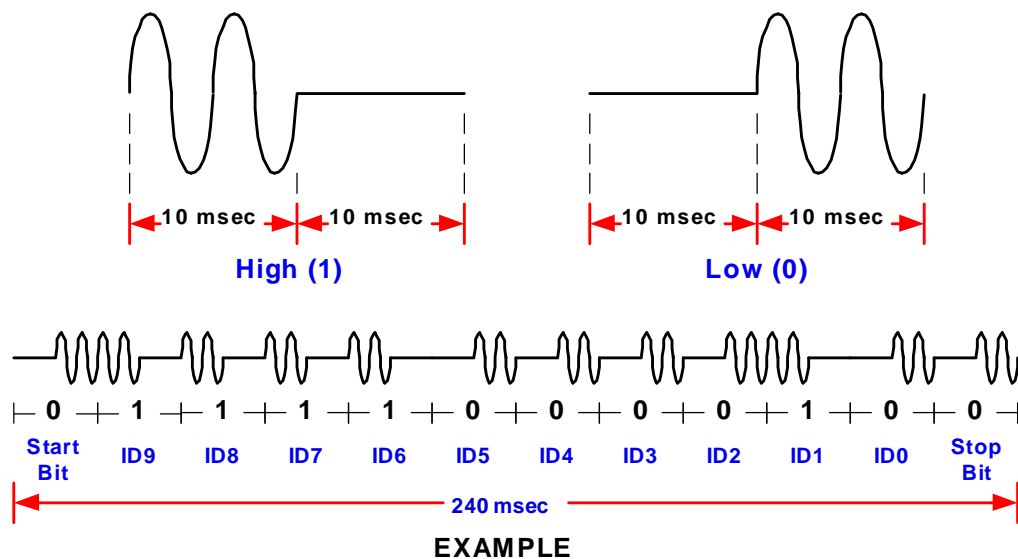

Figure 1: Representation of a Logic "1" and a Logic "0" in Out-Cal ID
3. "Out-Cal ID": AC Output of the corresponding channel provides a 10-bit ID assigned by the OASIS 2000 controller software. The ID is encoded by turning on (1) and off (0) the 200 Hz test signal. The sequence of the bits are: start bit (1), ID (most significant bit first), stop bit (1). 1's are represented by a transition from on to off (1 to 0). 0's are represented by a transition from off to on (0 to 1). Figure 1 shows the waveform representation of a logic "1" and a logic "0". Total transmission time will be 240 msec.